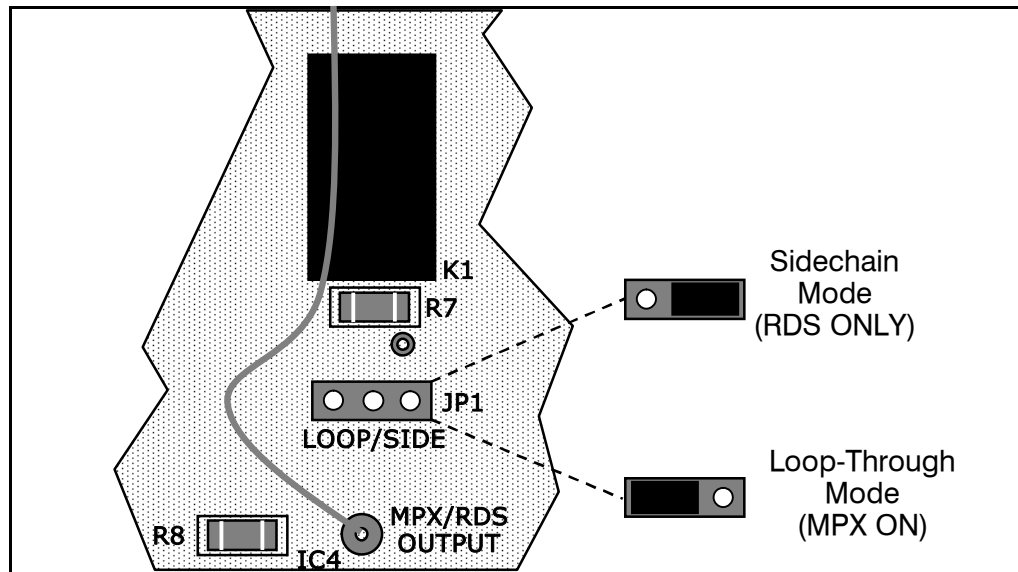

Figure 2 – Encoder Mode Jumpering
Referring Figure 2, locate the 3-terminal jumper strip, situated just behind the rear-panel RDS OR MPX OUTPUT connector on the circuit board. The shorting shunt is positioned to the *right* for sidechain operation.
**IMPORTANT:** The 720 encoder must be properly configured for the desired operating mode: sidechain or loop-through. Consult Figure 2 to confirm that the encoder circuit board is properly jumpered before connecting the Model 720 to other air-chain equipment.